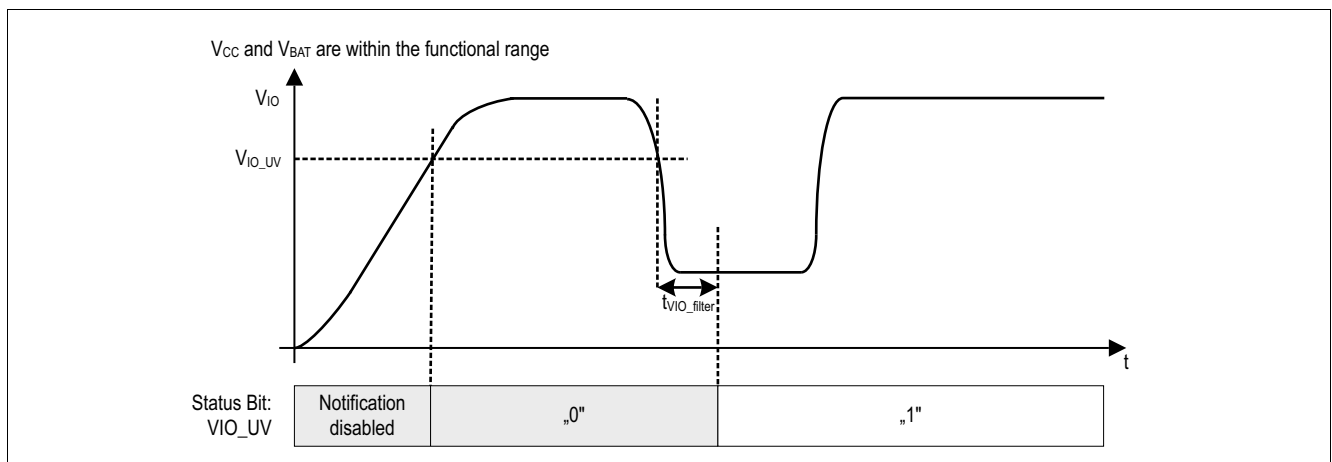

Figure 31 Undervoltage detection V_{IO} during V_{IO} supply stabilization period after Power on Reset
- Set the short-term undervoltage bit **VIO_STUV** to “1” in the SPI register **TRANS_UV_STAT**. After the completion of a Power on Reset, the V_{IO} supply stabilization period must be completed before an undervoltage notification can be recorded in the **VIO_STUV** bit. After Power on Reset the undervoltage notification is only possible once the V_{IO} supply has exceeded the threshold V_{IO_UV} , that is $V_{IO} > V_{IO_UV}$. **Figure 31** shows this scenario.